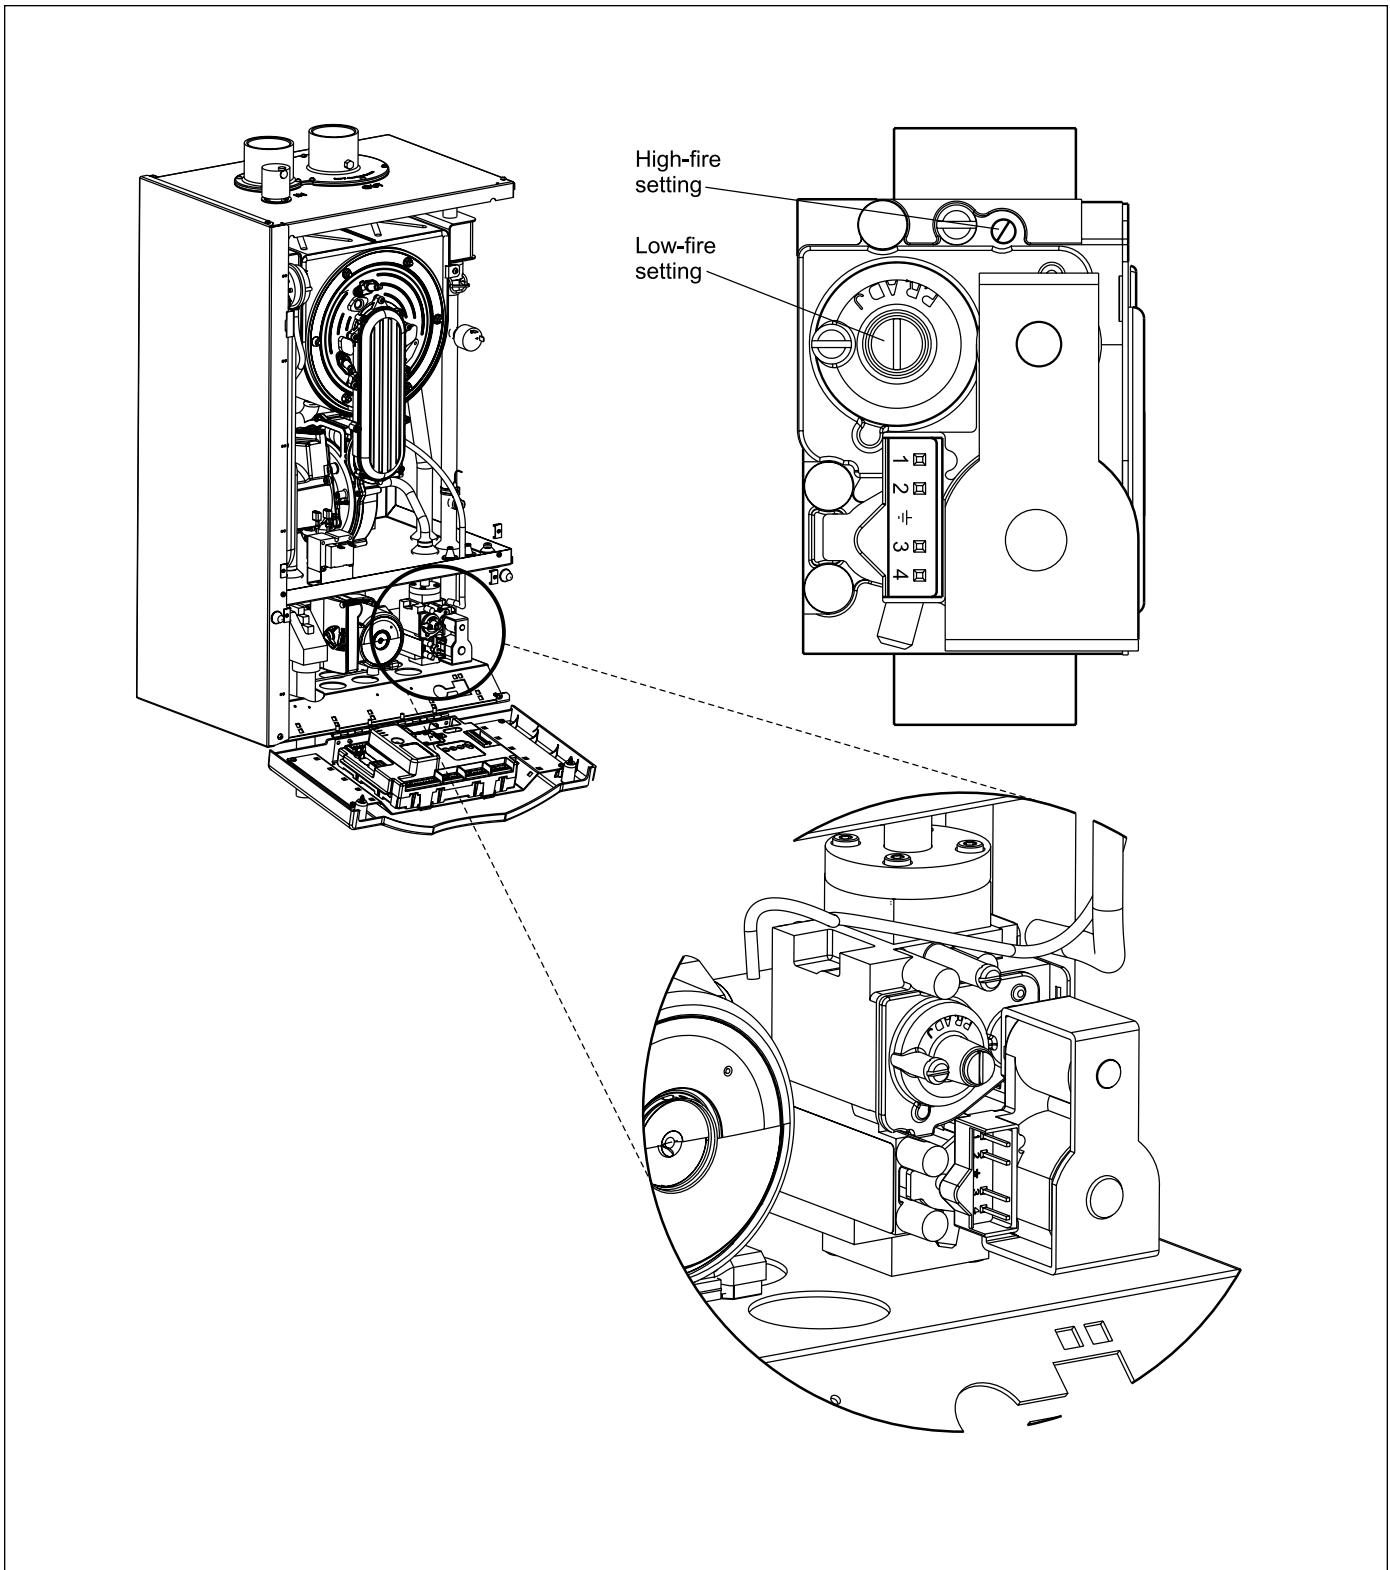

Figure 25. Adjustment Screws and Settings for CO₂.
2. Measure the CO₂/O₂ in the flue products at low fire. Mascot II can be forced to low fire to allow for easier setup. Refer to Section 8.1, Table 11 for instructions on how to access the forced rate menu. CO₂ readings should be between the values shown in Table 13. If the CO₂ is not within the range shown, adjustments may be made. To adjust the low fire CO₂, locate the low fire adjuster screw according to the appropriate figure. Slowly make adjustments in 1/16 of a revolution increments until the CO₂ is within the range identified (see Figure 25).